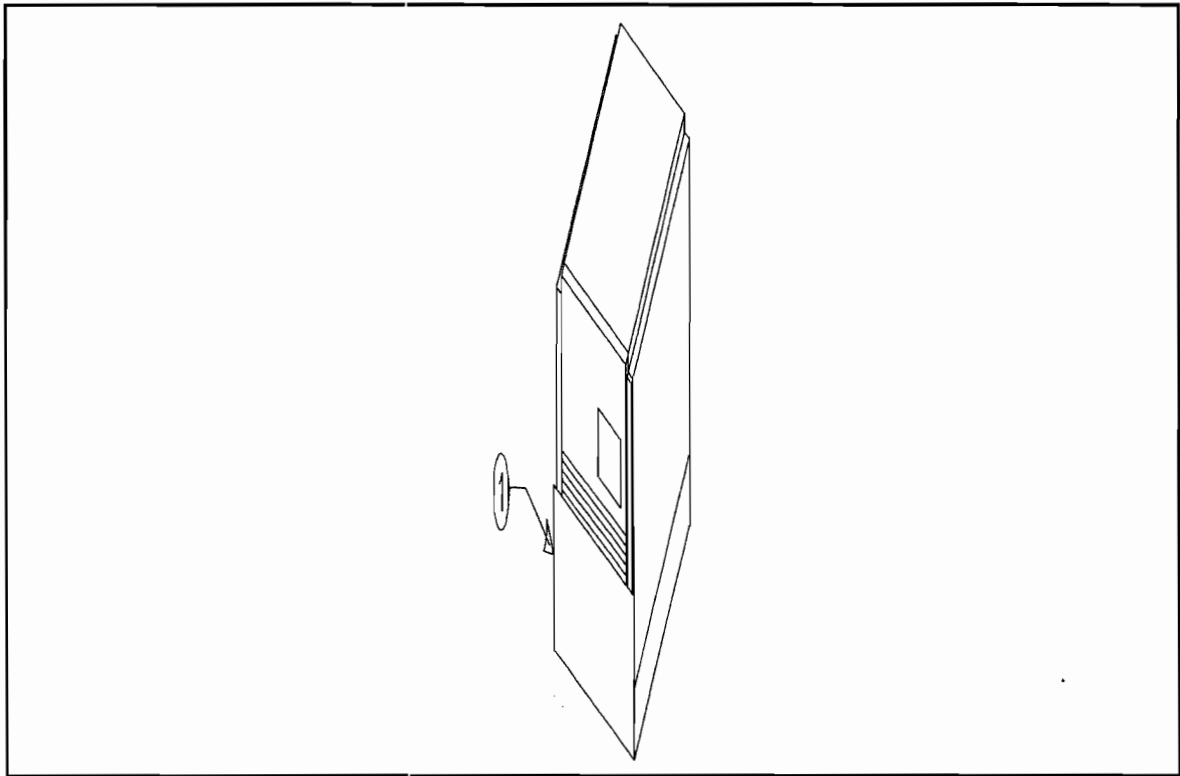

Figure 3-7. Lowering the Ramp
9. Lower the shipping tray flap ① at the front of the computer. See Figure 3-7. This flap forms a ramp for removing the computer.